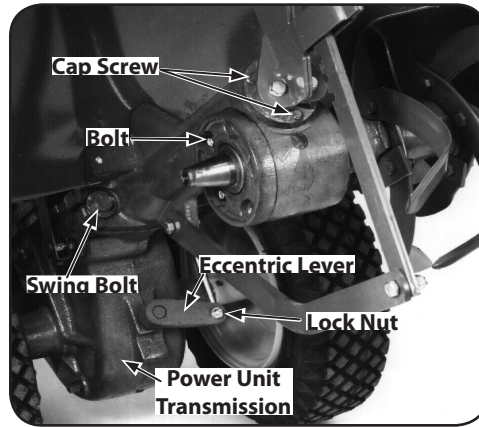

Figure 5-3
- The three rear bearing cap screws are located under the depth regulator mounting bracket. If any are loose, it can cause an oil leak or drive shaft end play. See Figure 5-3.
- Check the locknut that fastens the shifting linkage to the eccentric shifting lever. See Figure 5-3. Do not tighten the locknut against the eccentric lever. It should be very close to, but not touching the lever.